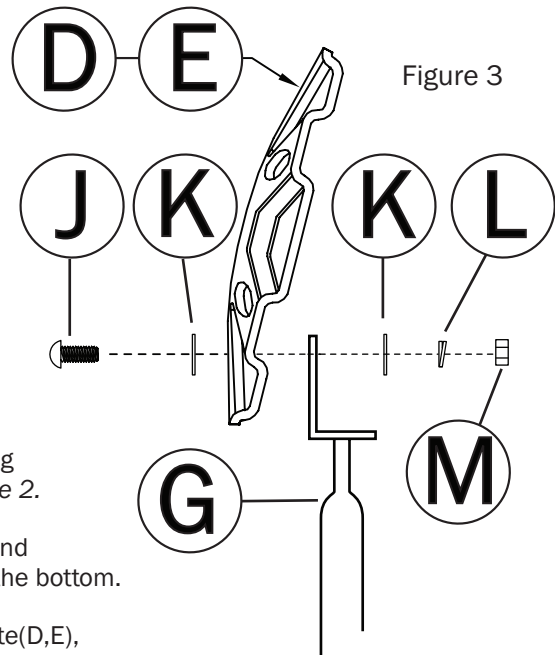

Figure 3
2. Once bottom perimeter is assembled, bolt on (5) In-ground Footers(G) equally spaced around the circumference of the bottom.
3. Insert Hex Bolt(J) and Flat Washer(K) into Connector Plate(D,E), through In-ground Footer(G) and secure with 3/8" Flat Washer(K), 3/8" Lock Washer(L) and 3/8" Lock Nut (M). See Figure 3.
4. Repeat Step 3 for remaining (4) In-ground Footers(G).